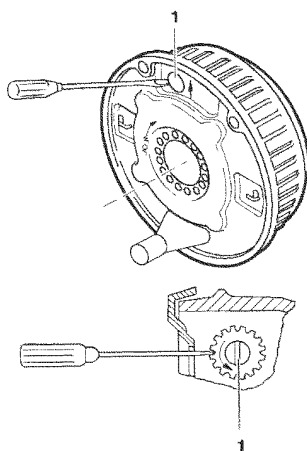

Fig. 11
5. ALWAYS rotating the road wheel in the forward direction - NEVER backwards; adjust the starwheel with a suitable screwdriver, in the direction of the arrow embossed on the backplate until there is resistance in the wheel rotation. (Fig. 11).
6. Slacken off the starwheel adjuster until the road wheel turns freely in the FORWARD direction. (Fig. 11).